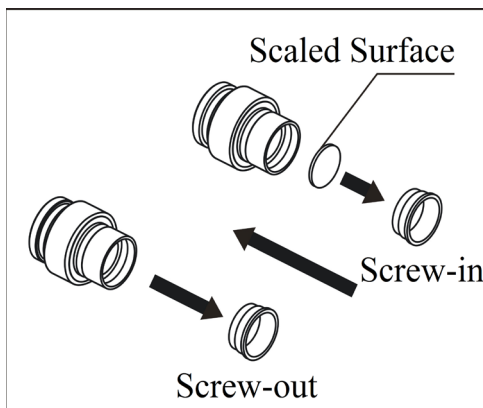

Fig.8
1. Unscrew the pressure ring from eyepiece (see Fig. 8).
2. Clean the reticle, then install it into the pressure ring with the scaled surface upward (see Fig. 8).